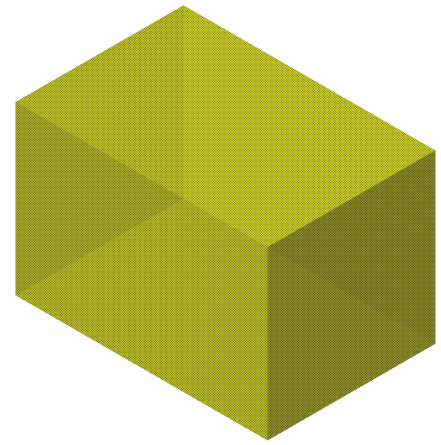

Fig. 4
Step 1. Click the **solid body** to select it, **Fig. 4**.